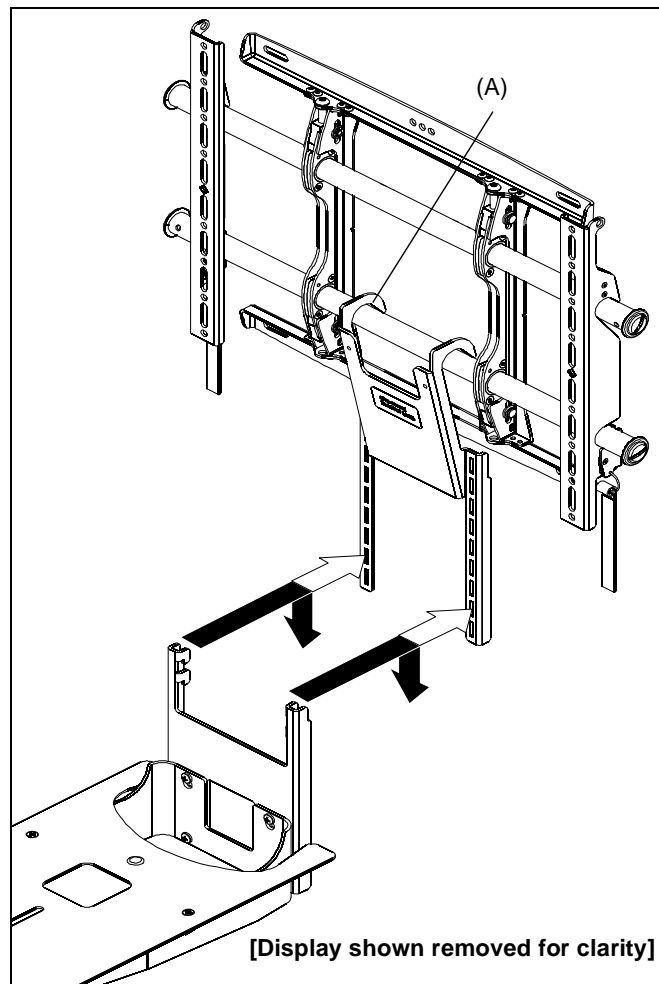

Figure 3
3. Hang shelf with hanger bracket onto the hook bracket (A). (See Figure 3)
**NOTE:** The shelf with hanger bracket may be adjusted up or down on the hook bracket (A) in 7/8" increments for a total height adjustment of up to 6.05".